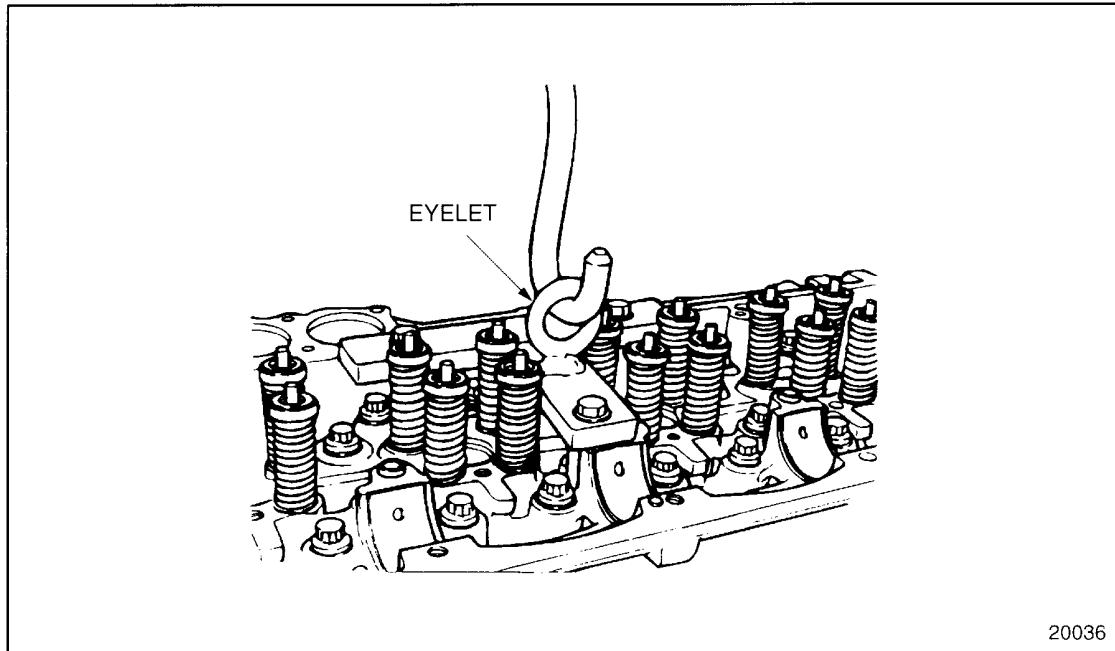
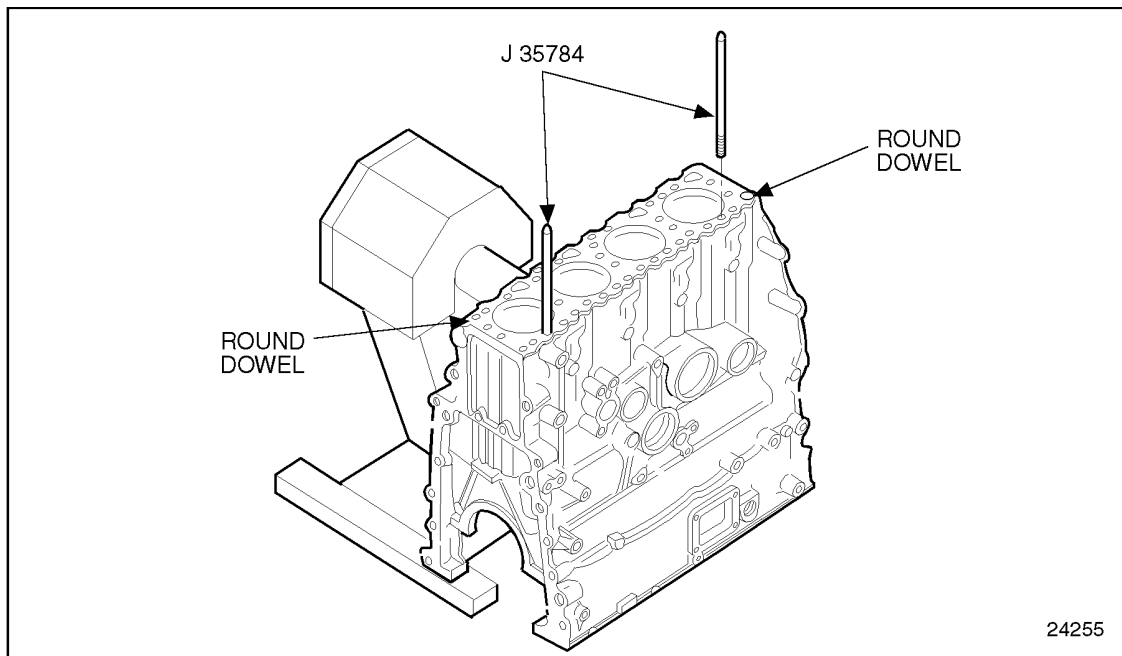

Figure 1-34 Cylinder Head Removal
Figure 1-40 Cylinder Head Guide Studs
25. Attach a suitable lifting hook to the eyelet in the lift bracket, and lift the cylinder head off the engine. See Figure 1-34.
2. Position the head gasket on the block and install cylinder head guide studs, J 35784, at front and rear of the block. See Figure 1-40.
3. Lift the head into position with lift bracket, J 35641-A. See Figure 1-34. Lower it into place over the guide studs, J 35784, until it seats on the block deck dowels. See Figure 1-40.